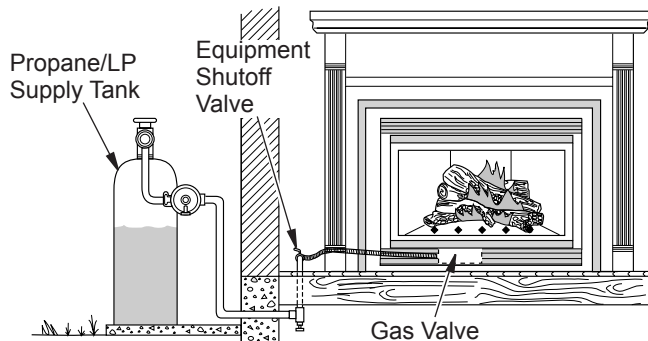

Figure 34 - Checking Gas Joints for Propane/LP Gas Fireplace
3. Check all joints from propane/LP supply tank or gas meter to equipment shutoff valve (see Figure 34 or 35). Apply noncorrosive leak detection fluid to all joints. Bubbles forming show a leak. Correct all leaks at once.
4. Check all joints from equipment shutoff valve to gas valve (see Figure 34 or 35). Apply noncorrosive leak detection fluid to all joints. Bubbles forming show a leak. Correct all leaks at once.